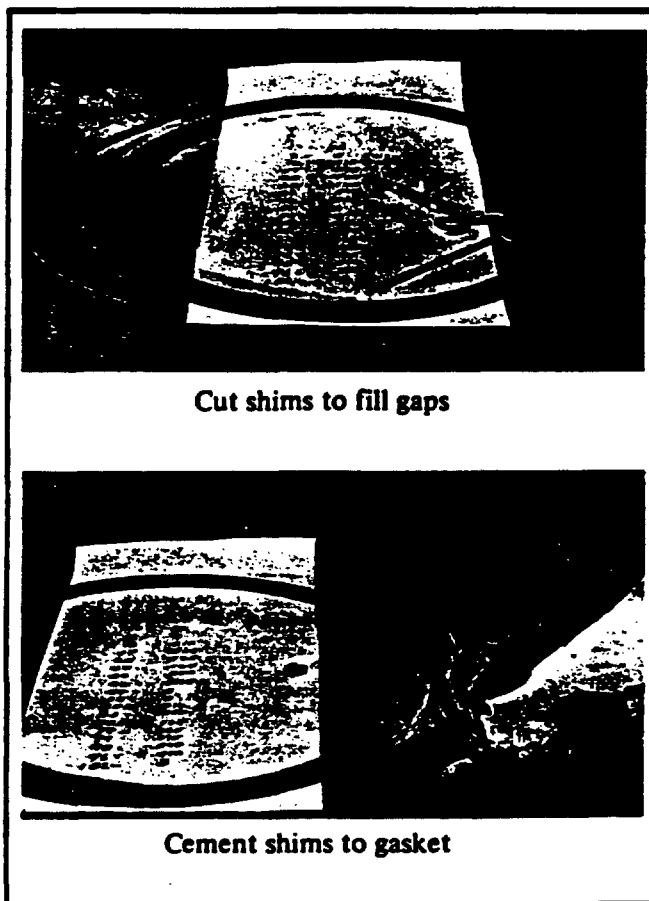

Figure 20. Shimming a Large Diameter Gasket
5. List these marks on a sheet of paper, designating them 0, 6, 12, 18, etc. (Fig. 20).